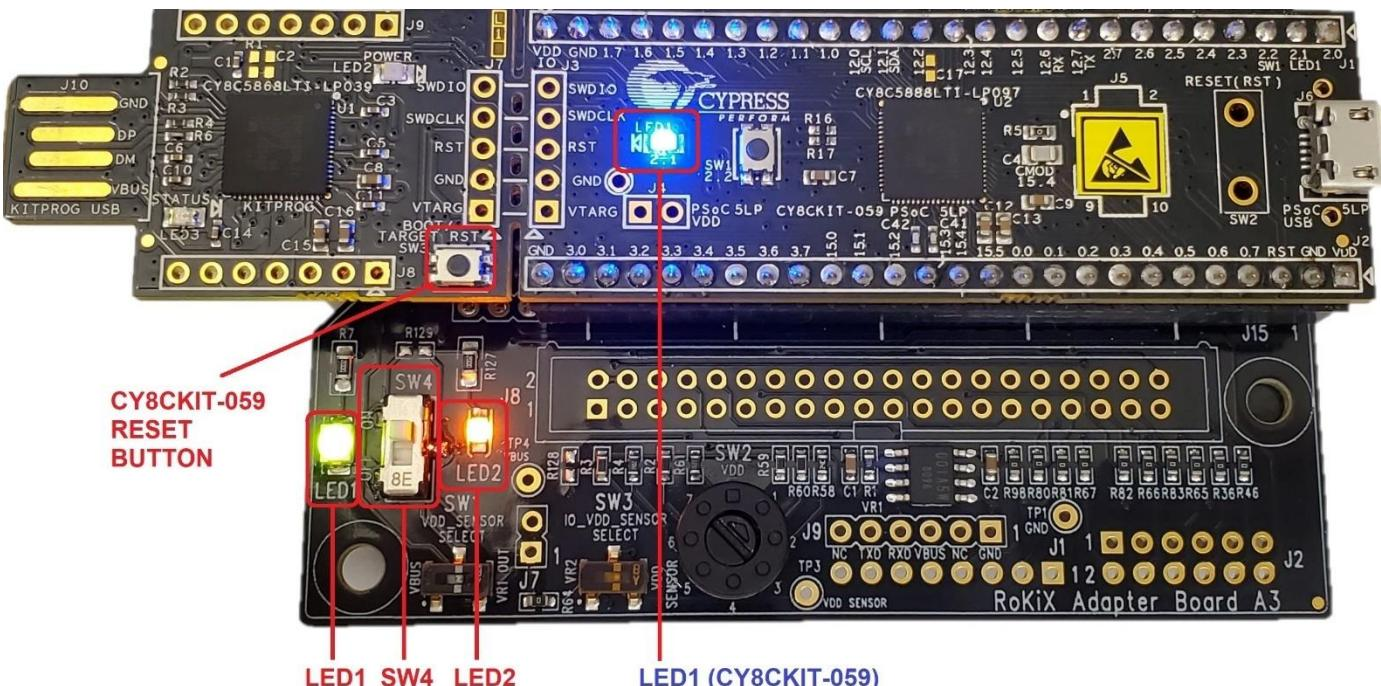

Figure 75: *RoKiX Development Kit* status: LED1, SW4, LED2, LED1 (CY8CKIT-059) must be ON
1. The **blue** LED1 (CY8CKIT-059) should be constantly ON and not blinking (Figure 75)
2. The **green** LED1 (Figure 75).
1. The **orange** LED2 should be ON (Figure 75). If **orange** LED2 is OFF, check the following:
- Check if the SW4 is in the ON position (i.e. moved up as seen from above) (Figure 75).
- Press CY8CKIT-059 Reset Button (Figure 75). Wait few seconds. If status changes to “Connected”, press “Streaming” button.